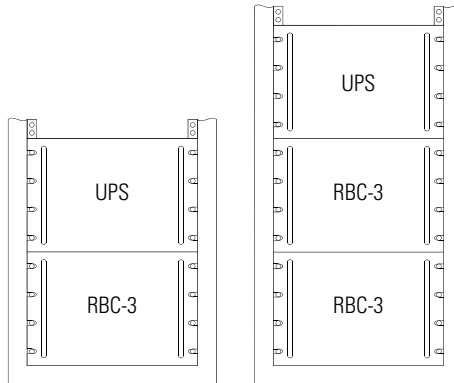

Figure 12. RBC-3 Rack Configuration
1. Position the battery cabinet below the UPS (see Figure 12). If you have more than one RBC-3 battery cabinet, both battery cabinets should be positioned below the UPS.